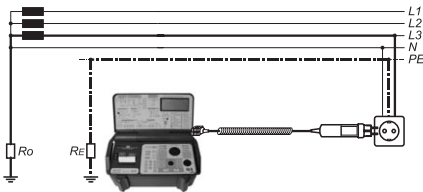

Figure 6.8.2 Connection of test leads
- ▶ Switch on UNITEST EURO-EXPERT plus via switch "ON/OFF" (9).
- ▶ Set the measurement range switch (1) to function 'VL-PE / ZL/IPSC' (2).
- ▶ Connect the test leads to instrument, measurement connector (17).
- ▶ Connect the test leads with object see figure 6.8.2 or 6.8.3.
- ▶ Switch on UNITEST 0100-EURO EXPERT plus via key "ON/OFF" (9).
- ▶ Set the measurement range switch (1) to function 'VL-PE / Ri/IPSC' (1).
- ▶ Connect the test leads to instrument, measurement connection (17).
▶ Connect the test leads with object see Figure 6.8.2 oder 6.8.3.
▶ The "DISPLAY" key (30) is used to alternate between the internal mains resistance (Ri L-PE) or the prospective short-circuit current (IPSC).